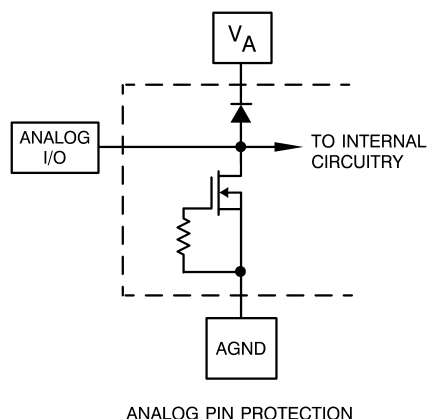
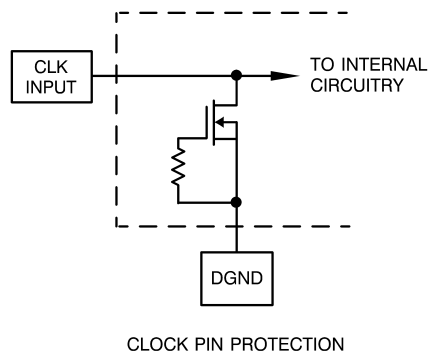
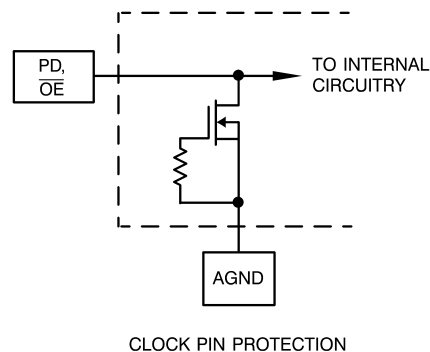

Figure 1.
Figure 2.
Figure 3.
- (1) The inputs are protected as shown below. Input voltage magnitudes up to 500mV beyond the supply rails will not damage this device. However, errors in the A/D conversion can occur if the input goes above V_A or below AGND by more than 300 mV. See Figure 1, Figure 2 and Figure 3.
- (2) Typical figures are at $T_A = T_J = 25^\circ C$, and represent most likely parametric norms.
- (3) Tested limits are specified to TI's AOQL (Average Outgoing Quality Level).
- (4) When the input signal is between V_{REF+} and $(V_A + 300mV)$, the output code will be 3FFh, or all 1s. When the input signal is between -300 mV and V_{REF-} , the output code will be 000h, or all 0s.
- (2) Typical figures are at $T_A = T_J = 25^\circ\text{C}$, and represent most likely parametric norms.